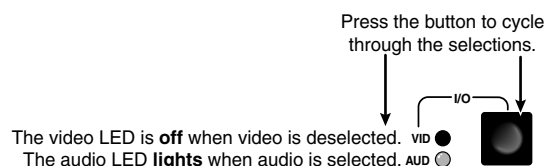

Figure 3-13 — Select audio only
1. Select audio only for the tie (figure 3-13).